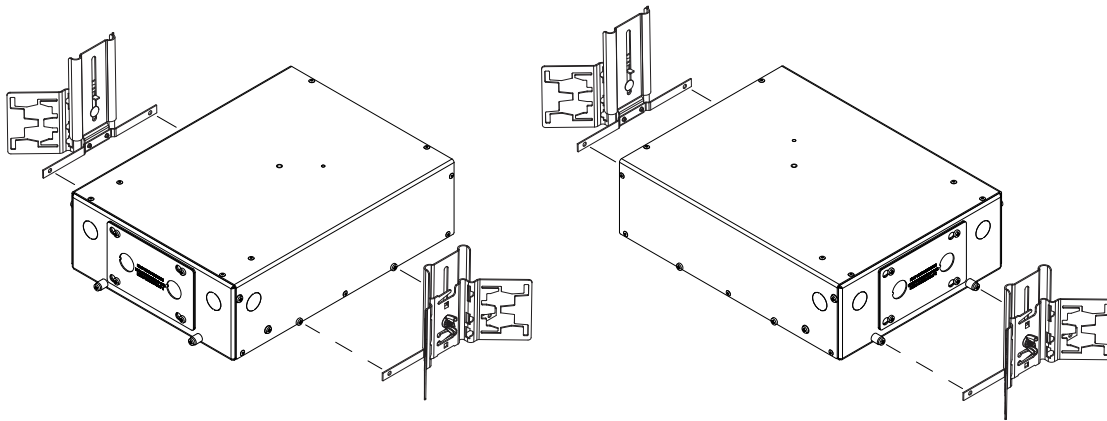

FIG 5.2 Butterfly Bracket/Housing Position
STEP 1 Attach Butterfly Brackets to either ends or sides of mounting frame using existing screws - **FIG 5.2**.